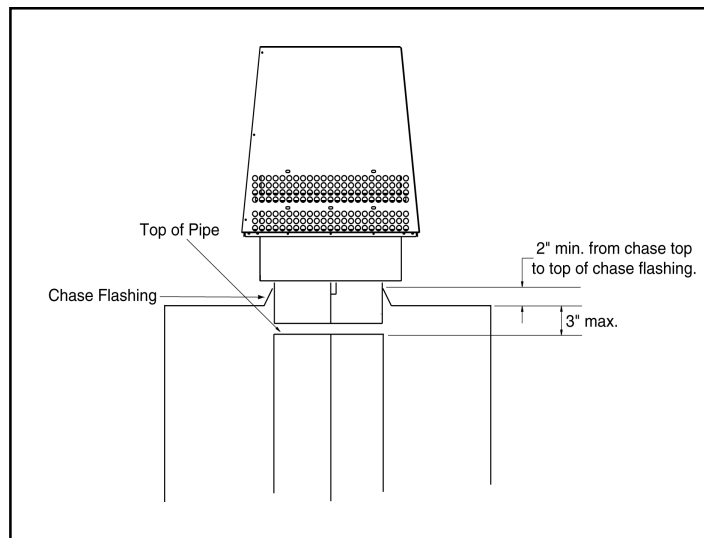

Figure 25 - Installing a TS345/TS345P Square Termination Cap
- d. For installation utilizing a TS345/TS345P Square Termination Cap, the uppermost chimney section must not be more than 3" below the chase top. See Figure 25.